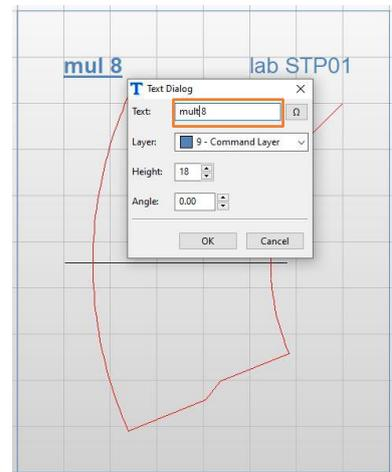

Figure 145
- Command Error:** Further we also intentionally want to produce an unknown NestKing Command error. Therefore double-click on our **"mul 8"**- Text object of STEP01 and change the text to **"mult 8"** in the appearing Text Dialog (Figure 145).